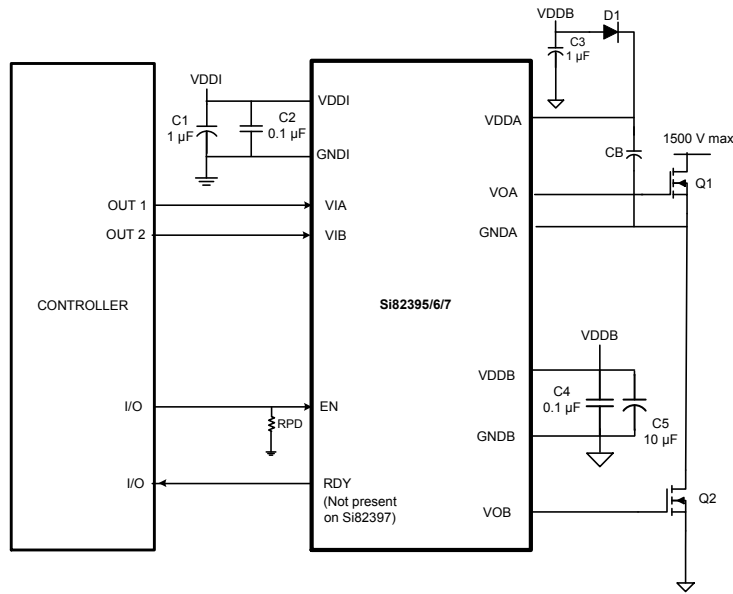

**Figure 3.2. Si82394/8 Application Diagram**
All high-side/low-side drivers with a single PWM input (Si82394/8) include programmable dead time, which adds a user-programmable delay between transitions of VOA and VOB. When enabled, dead time is present on all transitions. The amount of dead time delay (DT) is programmed by a single resistor (RDT) connected from the DT input to ground per the equation below. Note that the dead time pin should be connected to GND1 through a resistor between the values of 6 kΩ and 100 kΩ and a filter capacitor of 100 pF in parallel as shown in Figure 3.2 Si82394/8 Application Diagram on page 18. It is highly recommended it not be tied to VDDI. See Figure 2.18 Dead Time Waveforms for High-Side/Low-Side Drivers on page 17 below.